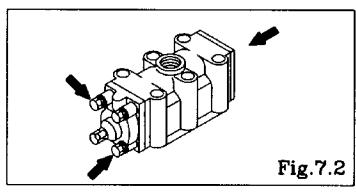

Fig.7.2
- Remove the 8 cap A and cap B retainer bolts, and remove cap A, cap B, packing, plain washer, cushion and gasket. [Fig.7.2]